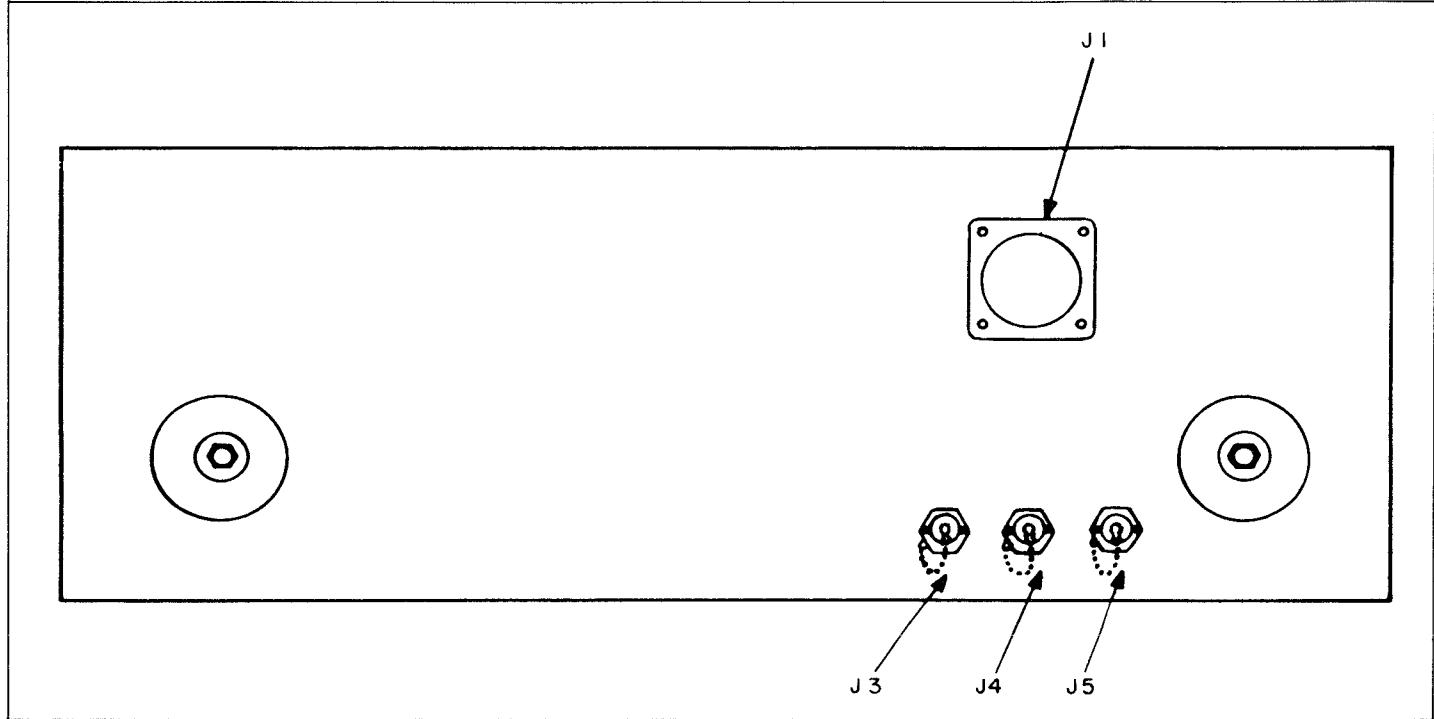

Figure 1-1. Radio Receiver SC-910R, Rear View
1.5.3 Installation Layout. The Receiver may be installed in any convenient location and may be either table or rack mounted. Use adapter plates to install the receiver in a standard 19 inch rack. AC power, remote unit and audio connections should be made through J1 (see figure 1-1), using a type MS3106-R22-14S(C) connector. See figure 6-1. An RF input is obtained by making a connection to J5 using a BNC connector type UG88/U and the necessary length of RG58/U coaxial cable. An external frequency standard can be connected to J3 to synchronize the receiver. Alternately, the internal frequency standard can be used to synchronize other units or for test purposes using J4. Connect the headset or headphones to the Receiver at J2 using an AN30-57-6 connector.